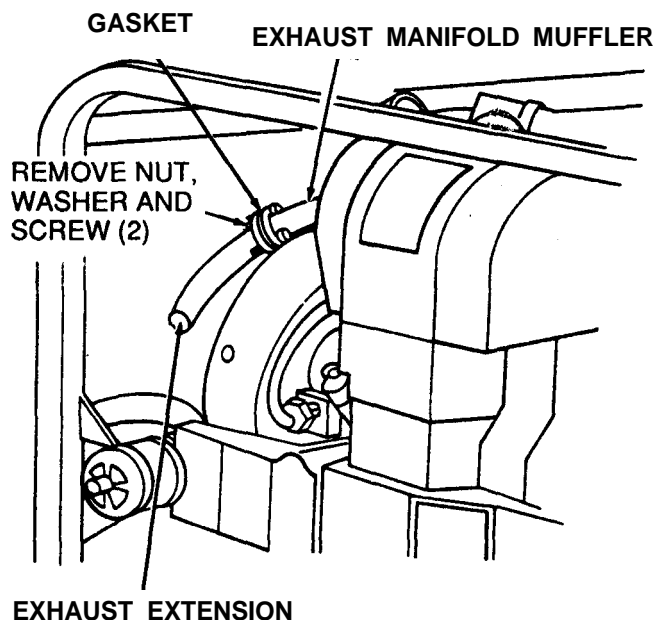

Figure 4-8. Exhaust extension, removal and installation.
a. Removal. Refer to figure 4-8 and remove the exhaust extension.
(1) Clean and dry the exhaust extension and attaching hardware thoroughly.
(2) Inspect the exhaust extension for cracks, breaks, distortion, and excessive rust.
(3) Inspect the gasket for breaks, burned through spots and other signs of failure.
(4) Replace defective parts.
c. Installation. Refer to figure 4-8 and install the exhaust extension.